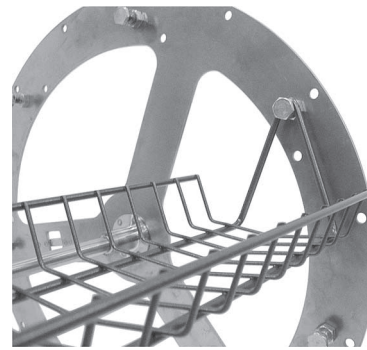

Fig. 17
2. Hang the right end of the Rack or Basket on the corresponding stud on the right side of the rotor at the same height (Fig. 17). The accessory must be level.